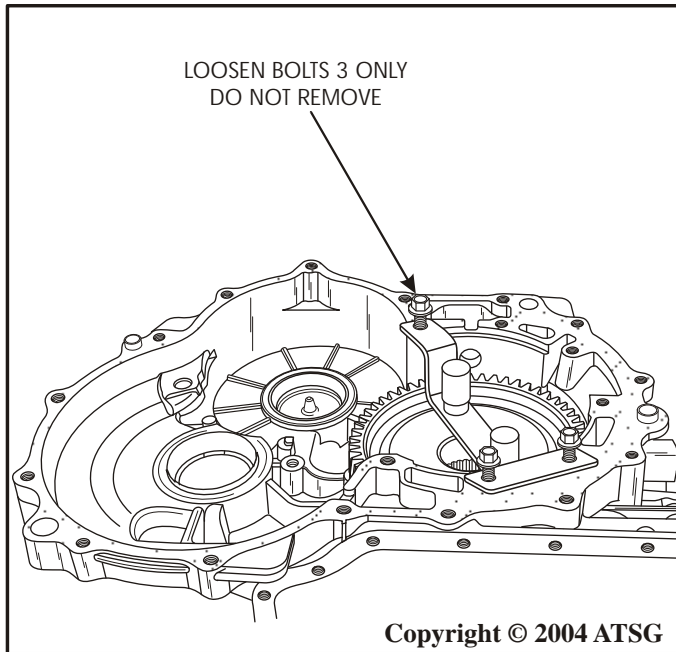

Figure 113
8. Rotate the transaxle 180 degrees and loosen, but do not remove the three bolts retaining the holding tool, as shown in Figure 113.